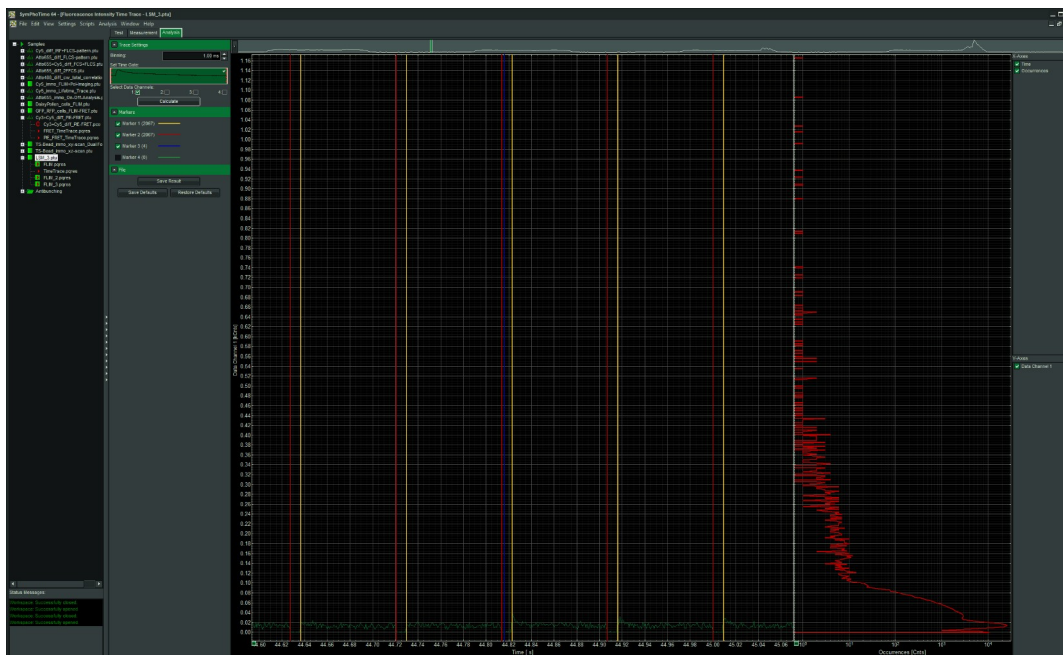

Fig. 3.1: The Time Trace analysis, where the line and frame - markers can be displayed.
- To align the pinhole, place a bright fluorescent sample on the microscope (e.g. a dye solution) and focus into the solution. The pinhole position can be moved in the AUX – menu of the Nikon software(Fig. 3.1)